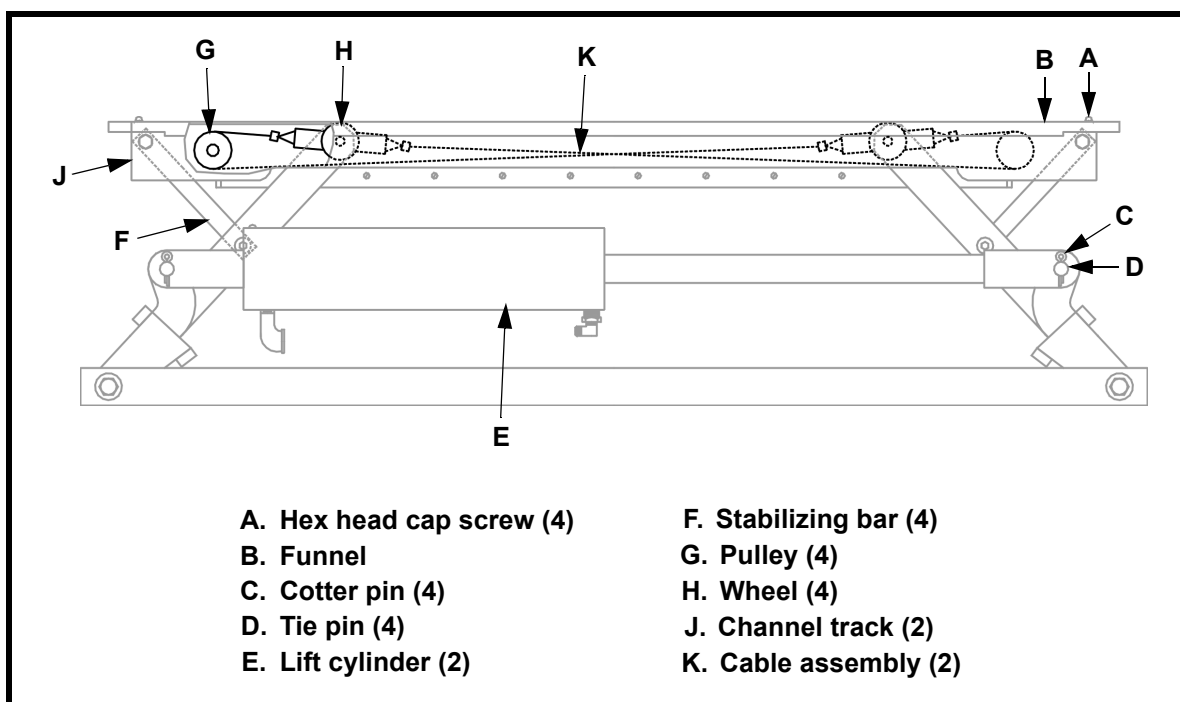

Figure 10. Replacing Cable Assembly
4. Remove four screws (A, Figure 10) holding funnel (B) to channel track.
7. Pull out cotter pin (C) and tie pin (D) from yoke side of cylinder (E) to release any upward pressure on the Boot-Lift® Railcar Connector.
8. Remove eight cap screws and washers from each channel track holding stabilizing bars (F) and pulleys (G).
9. Push stabilizing bars down out of the way and remove wheels (H).
10. Lift the channel track (J) so it will clear edge of pit and slide off frame.
13. Install new cable assembly (K), making sure it hangs like a figure eight over the wheels.